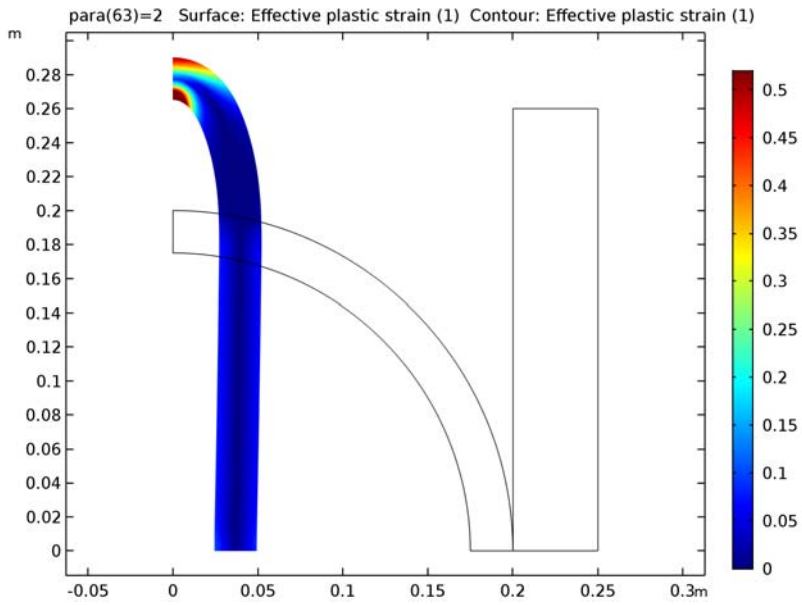

Figure 4: Effective plastic strain at maximum compression.
The distribution of the effective plastic strains is shown in Figure 4 and Figure 5. As can be seen, the peak value (1) is far above the ultimate strain (0.52). All values above the ultimate strain are however on the inside of the pipe, where the strain state is mainly in compression. At the outer edge of the pipe, the plastic strain approximately reaches the ultimate strain. There is thus a certain risk that cracks could start forming. The values of ultimate stress and strain are related to the specimen used for the testing (usually a cylindrical bar) and cannot directly be transferred to general multiaxial conditions.